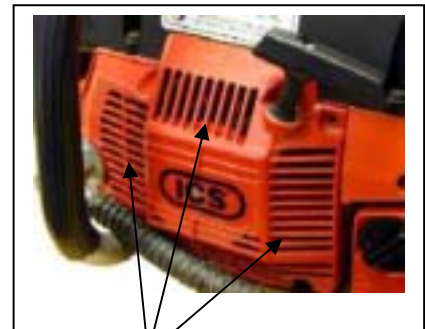

Figure 2
- After each usage, thoroughly flush the starter housing assembly with water. (Figure 2)
- Lubricate the starter pawls by spraying light weight oil into the starter housing through the vents. (Figure 2)